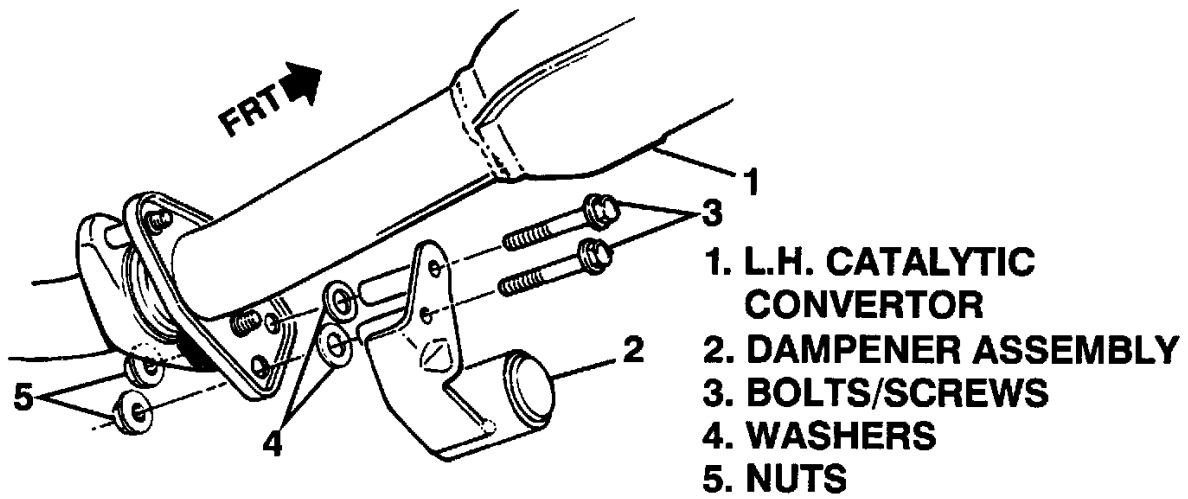

Figure 2
4. Install dampener, P/N 10272298, as shown in Figure 2 and secure in position using two (2) bolts, P/N 3522364, two (2) washers, P/N 3790768 and two (2) nuts, P/N 10255857.